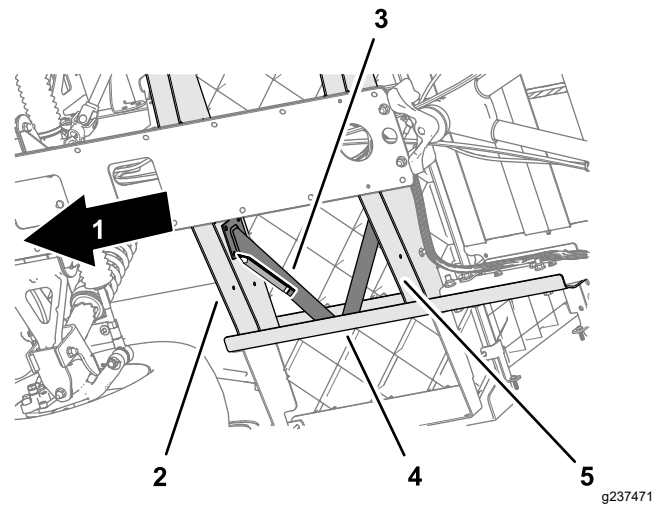
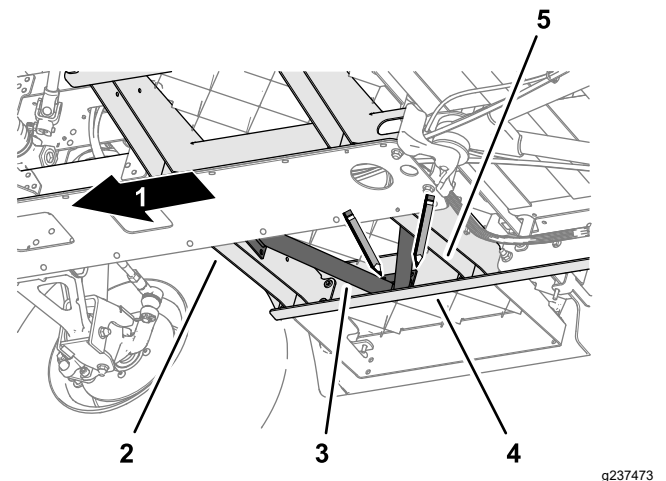

Figure 15
Figure 16
3. Using the floor brace as a template, mark the hole locations on the side frame channel and floor channels (Figure 15, Figure 16, and Figure 17).
- Align the flanges of the floor brace flush to the side frame channel, forward floor channel, and rear frame channel of the machine (Figure 15).
- Align the floor brace parallel to the floor (Figure 15).